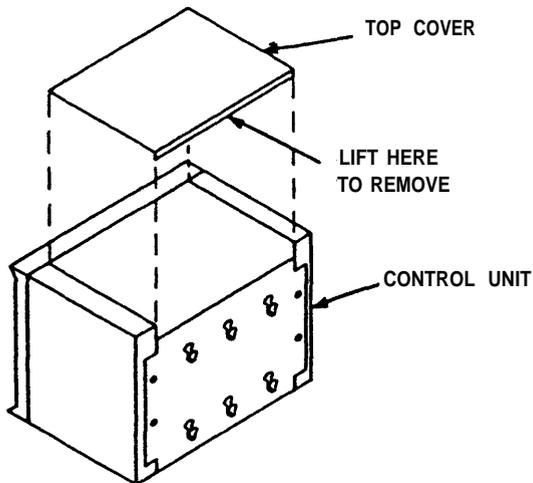

Figure 1
3. Remove top cover from your Model 1030 control unit. (See Figure 1.)